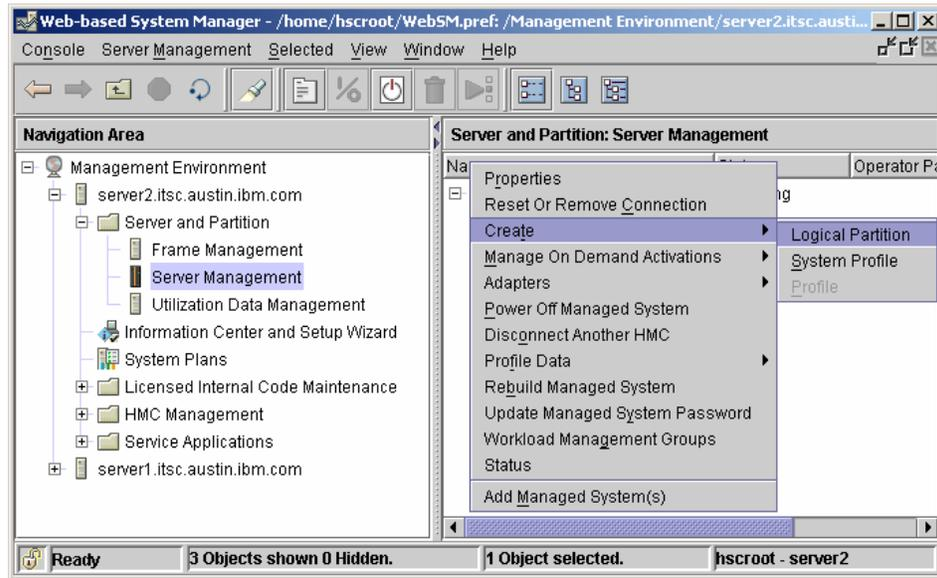

Figure 3-2 Starting the Create Logical Partition Wizard
2. Right-click the managed system **P520\_ITSO**, then select **Create** → **Logical Partition**, as shown in Figure 3-2, to start the Create Logical Partition Wizard.